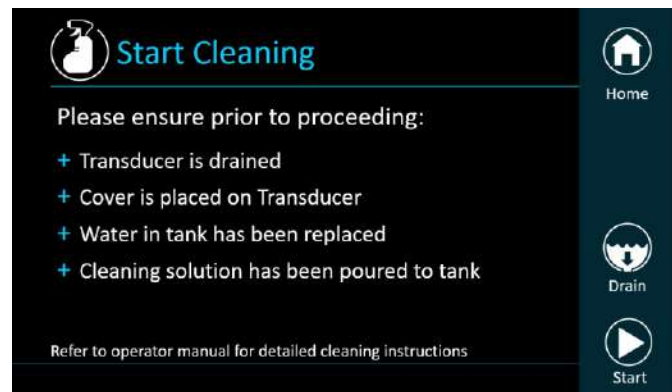

Figure 12-8: 'Clean' Menu
The system will switch to Clean Mode (Figure 12-8)
Step 13: Press ‘Start’ button to start the cleaning operation (Figure 12-8). A countdown timer will appear, displaying the remaining Tank cleaning time (Figure 12-9)